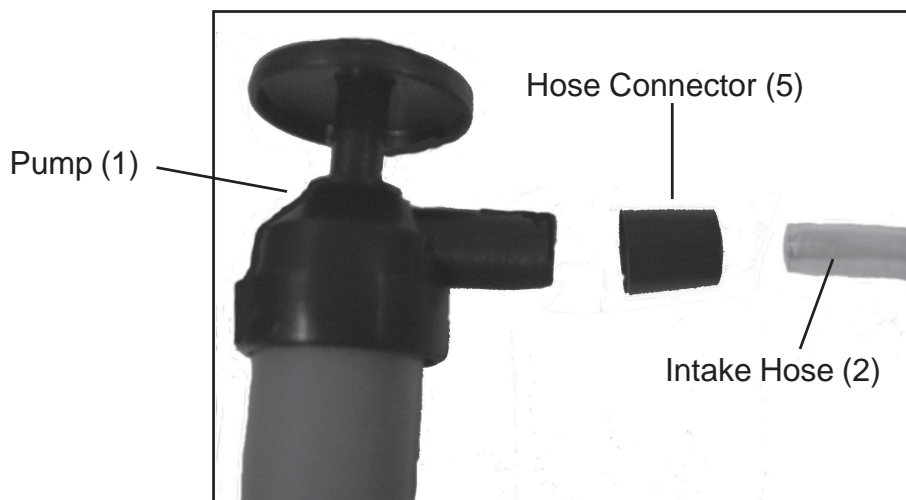

Figure 1
1. Insert one end of the clear Intake Hose (2) into a black Hose Connector (5). Insert the hose with connector into the top intake valve of the Pump (1) and tighten securely. See Figure 1